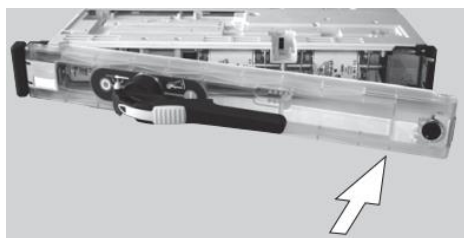

Fig. 11 / Fig: 11 [picture source: Jean Müller]
- Close the front cover (Fig: 11)